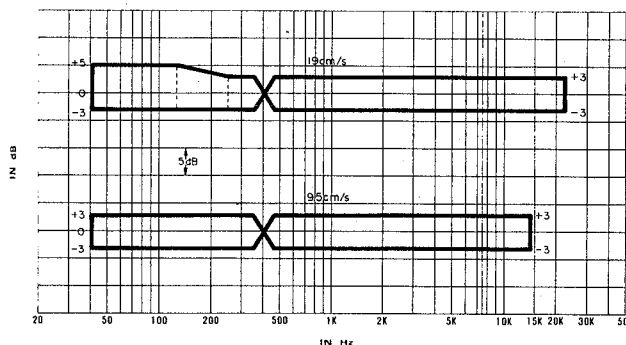

Fig. 12-2 Frequency Response Limits -PLAYBACK-
3. Compare the readings obtained on the Test-Set with the Response Limits given in Fig. 12-2.